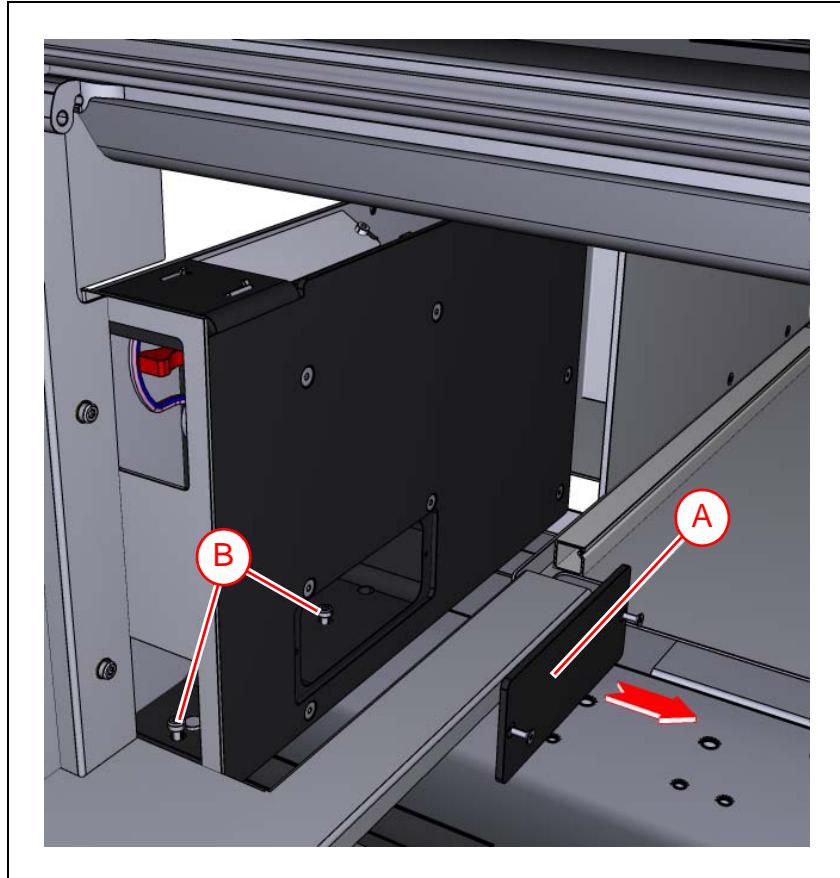

Figure 9-17. Mount the Camera Unit.
1. Remove one of the side covers ('A' in Figure 9-17) on the camera to gain access to the rear attachment screw position ('B').